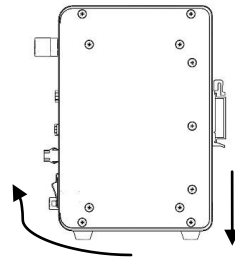

Fig.2.2: Guide rail Uninstallation
- 2、 Uninstallation (Fig.2.2): (1) Pull down the controller.